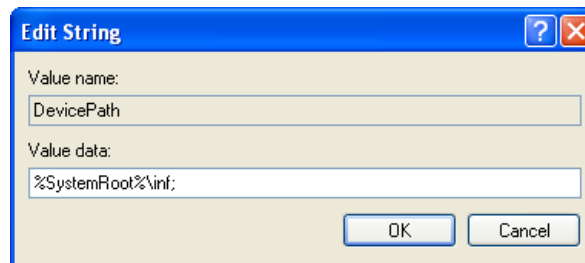

Figure 6-38 Edit String window in the Windows Registry Editor
3. Select the key and then double-click **DevicePath** in the details pane. The Edit String window will appear as shown in Figure 6-38.